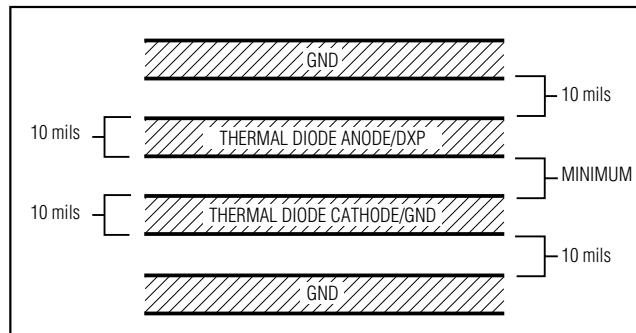

Figure 4. Recommended DXP PC Traces
- 4) Route the thermal diode traces in parallel and in close proximity to each other, away from any higher voltage traces, such as +12VDC. Leakage currents from PC board contamination must be dealt with carefully since a $20\text{M}\Omega$ leakage path from DXP to ground causes about $+1^\circ\text{C}$ error. If high-voltage traces are unavoidable, connect guard traces to GND on either side of the DXP trace (Figure 4).
- 7) Use wide traces. Narrow traces are more inductive and tend to pick up radiated noise. The 10-mil widths and spacing recommended in Figure 4 are not absolutely necessary, as they offer only a minor improvement in leakage and noise over narrow traces. Use wider traces when practical.